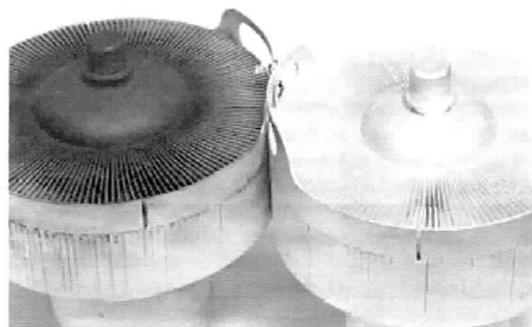

Figure 3
*Fig. 3. Dirty and discolored cooler of amplifier tube at left indicates combination of discoloration due to heating and lack of cleaning. Tube has operated too hot and dust has collected in anode louvers.*